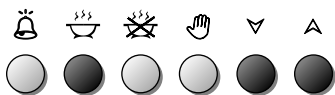

Fig. 7.5
1. Set the length of the cooking time by pushing the  button and the  button to advance, or  to go back if you have passed the desired time (fig. 7.5). The **AUTO** and the  symbol will be on.